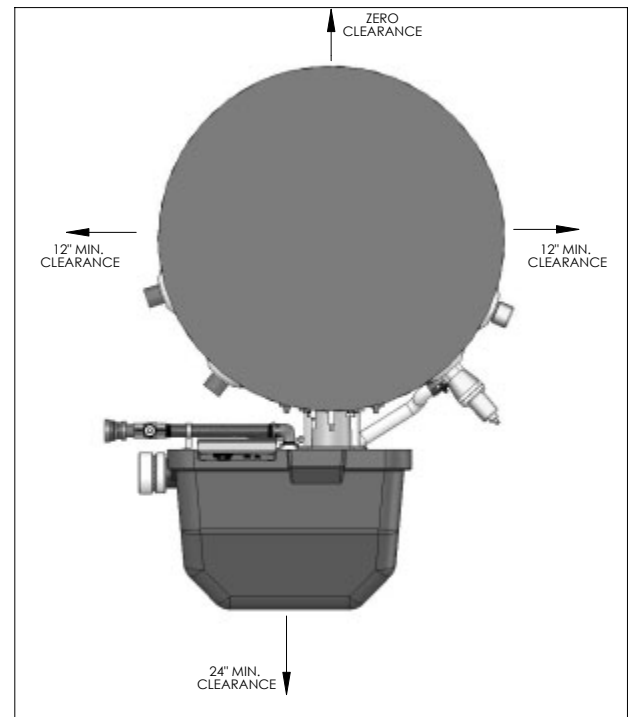

Fig. 3-1
1. If you do not provide minimum clearances, it might not be possible to service the water heater without removing it from the space. (See Fig. 3-1 at right)